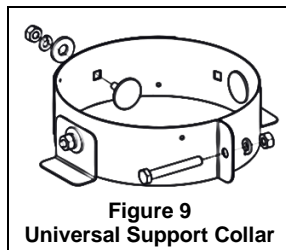

Figure 9
9. Pre-assemble the support collar (for either 6 5/8" or 8" outer casing) as shown in Figure 9. Install the collar on the length of vent that will pass through the support and tighten the locking bolt at your mark. Permanently fasten the collar using three metal screws. Install the vent length in the support and connect it to the length below using the screws provided.